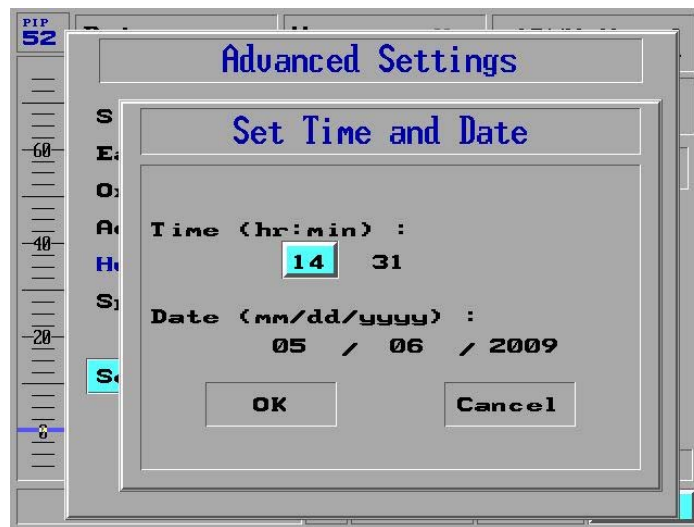

Figure 94: The Set Time and Date Pop-Up Window
- Press the Control Knob. The **Set Time** and **Date** pop-up window appears, showing the currently set time, with the hour (in 24-hour mode) selected (Figure 94).